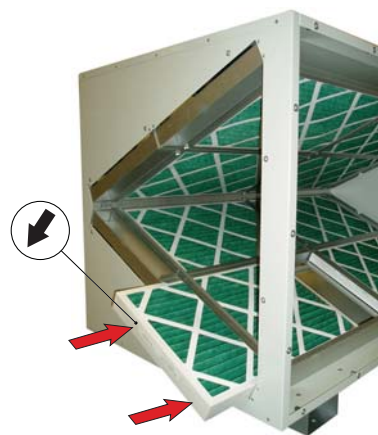

Figure 6.8
5. Push the new filters into the filter box. Make sure that the arrow on the filter points in the same direction as the air stream, see *Figure 6.8*.